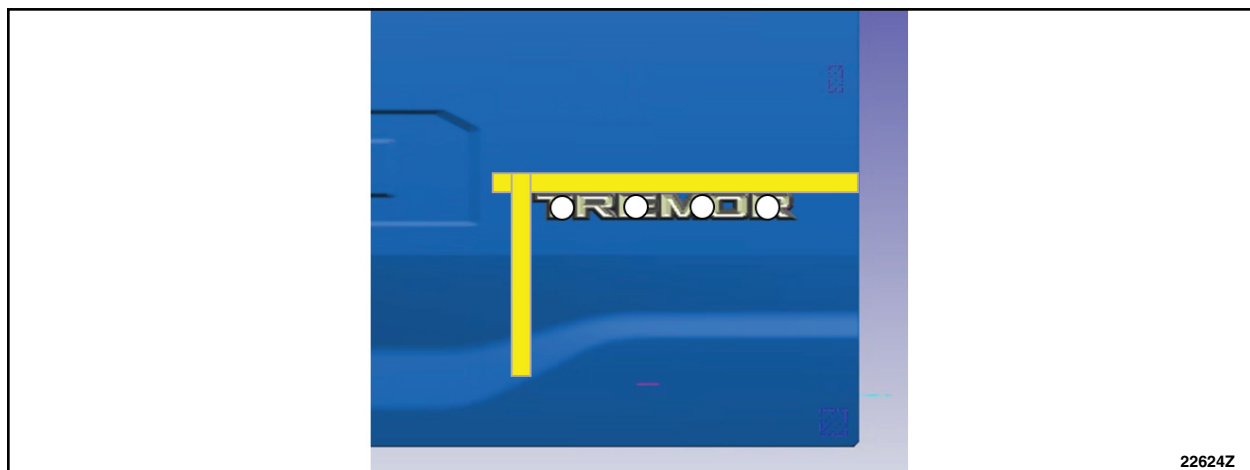

FIGURE 15
49. Remove the tape liner from the back of the badge and install to the door using the locating tape to properly align the badge. See Figure 15.
50. Using medium hand pressure, press for 3 seconds at a minimum of 4 separate locations along the length of the badge until the tape is fully adhered. See Figure 15.